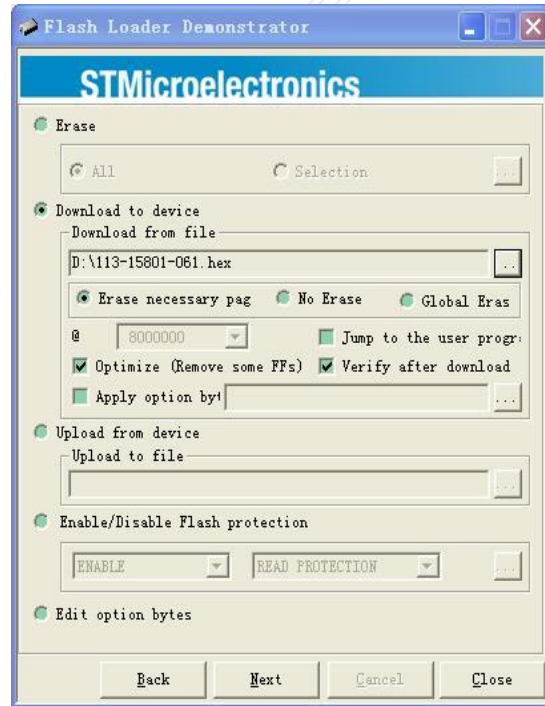

Fig. 8
- 6) In Fig. 8 select "Download to device" and open the firmware file (HEX file) which you have saved earlier by clicking on the "... " button. Make all the rest settings the same as shown in Fig. 8. Then click on Next to start writing.